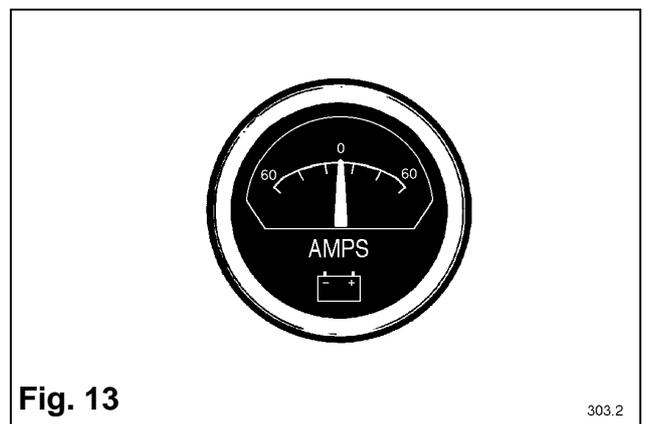

**Fig. 12**
**Engine oil pressure gauge Fig. 12**